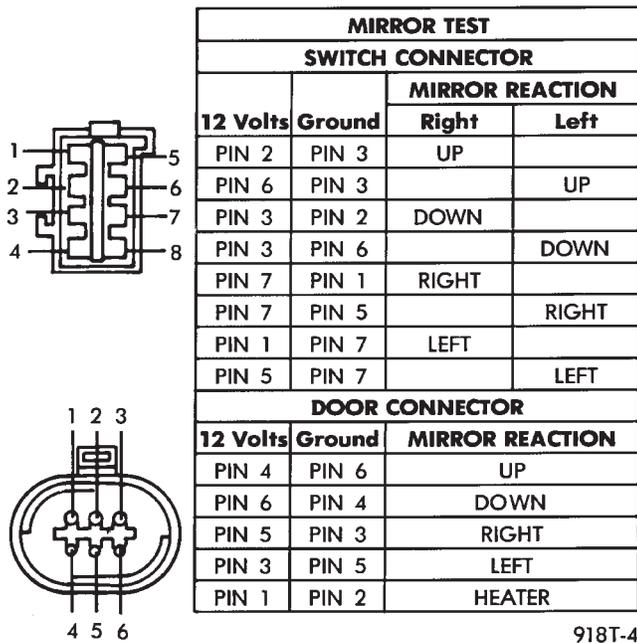

Fig. 2 MIRROR TEST — AP Body
- (1) Remove power mirror switch from mounting position.
- (2) Disconnect switch wiring harness at connector. In the case of memory mirrors, (green 8-way mirror connector and memory switch in drivers door panel), the switch wiring disconnects from the cowl top harness rather than the mirror harness.
- (3) Using two jumper wires, one connected to a 12 volt source, and the other connected to a good body ground. Refer to the Mirror Test (Fig. 2 through 5) for appropriate switch style, and for pin numbers.
(4) If results shown in the Fig. 2 through 5 are not obtained, check for broken or shorted circuit, or replace mirror assembly as necessary.
- Apply voltage to one wire and ground the other, refer to Fig. 2 through 5 for pin numbers. Mirror should become warm to the touch.